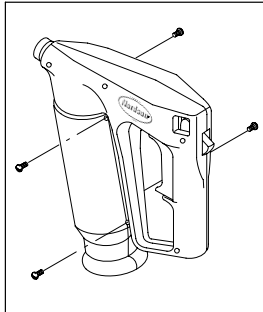

Figure 2 Remove Pilot Sleeve Shells (typical gun shown)
**NOTE:** Figure 2 shows a typical handgun. Details may vary depending upon the gun model.